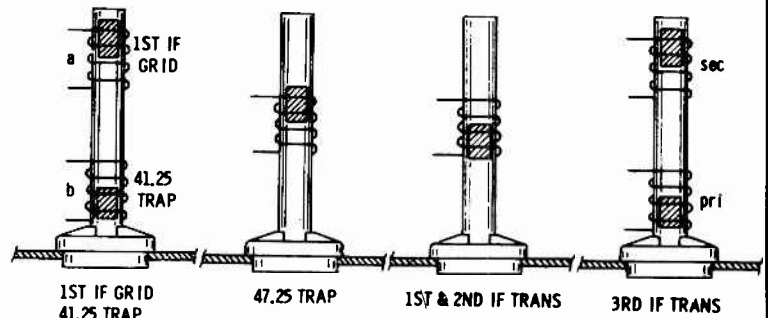

FIGURE 7. COIL CORE POSITIONS
5. All coil slug tuning positions, in relation to chassis, are given in the procedure chart and in the separate detail of Figure 7.